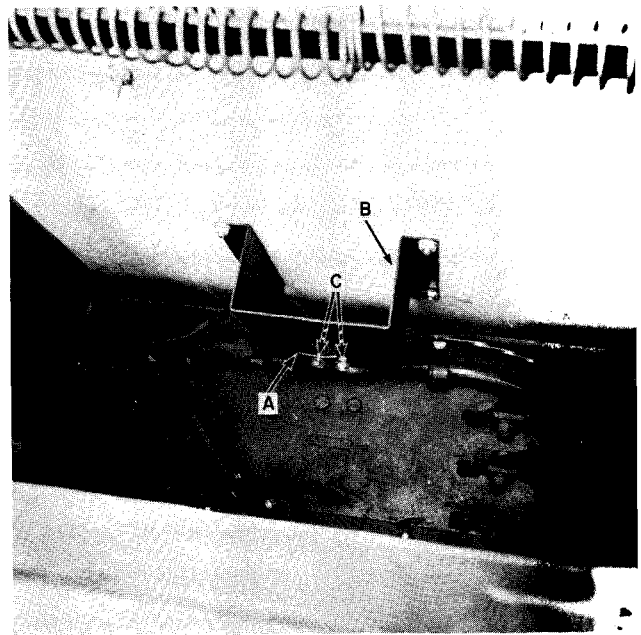
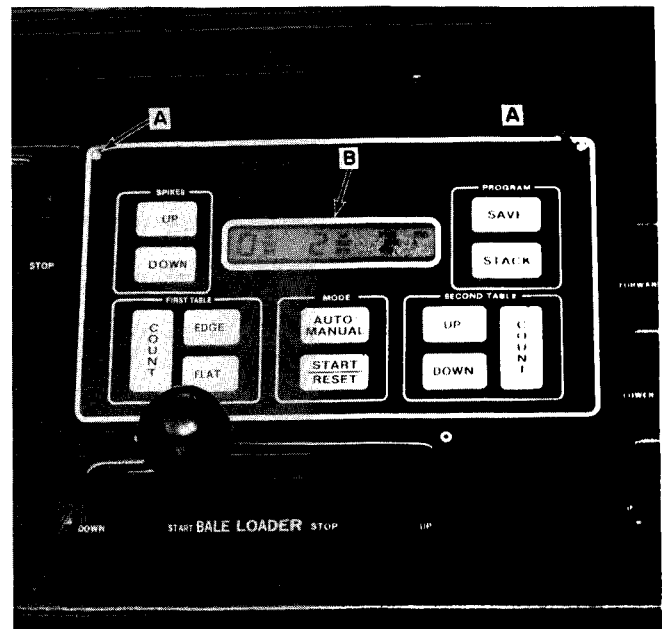

FIGURE 2-2
FIGURE 2-9
4. Fasten the spade bracket, A, Figure 2-2, to the mounting bracket, B, with two $1/4$ " x $1/4$ " cap screws, flat washers and locknuts. Install a spring on each mounting bolt at C.
5. Fasten mounting bracket, B, Figure 2-2, as shown using four $1/4$ " x $3/4$ " truss-head machine screws and flange nuts.
17. Attach the new connector to the controller and install the controller in the console. The bottom lip of the controller should slip between the spade bracket, A, Figure 2-2, and mounting bracket, B. Retain the controller with two #6 x 1/2" self-tapping screws at A, Figure 2-9.
1. Turn the bale wagon key to the on position. A display, B, Figure 2-9, should appear. If there is no display, check the wiring from the fuse block for proper hookup.